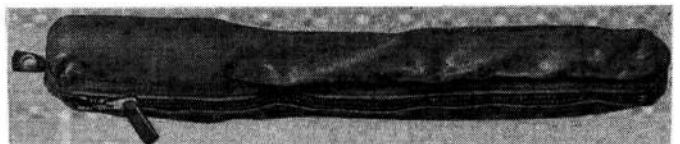

Fig. 9. Cylindrical container ready for stowing in pack
21. The cylindrical container (*fig. 9*) is intended to hold a solar still, but until this item is available it will contain three 2-star RED distress signals and a plastic drinking cup.